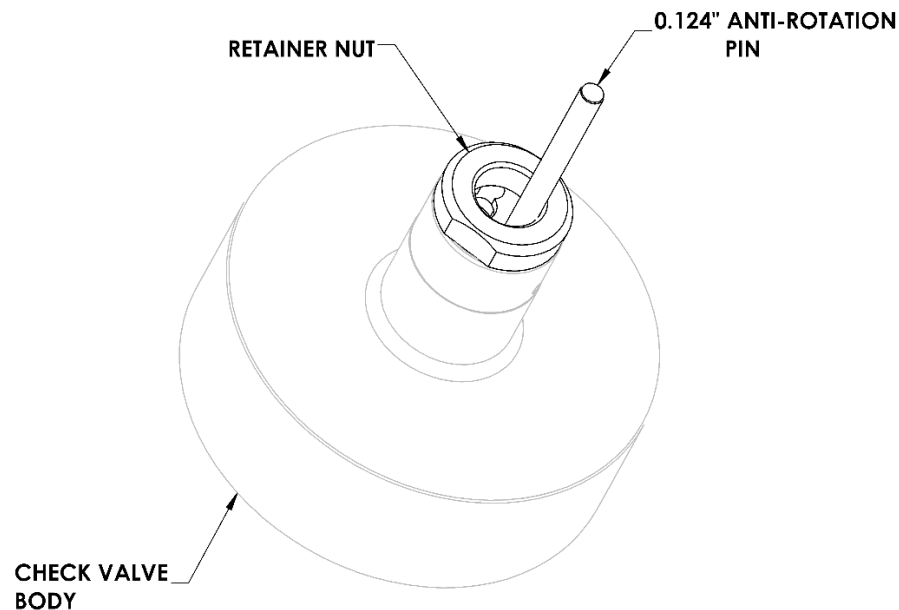

Figure 29 Installing the Inlet Retainer Nut
15. **Apply** a slight coating of Lubriplate to the 0.124" diameter anti-rotation pin and **insert** it through the outlet port of the check valve retainer and into the check valve body. **Clamp** the outside diameter of the check valve body in the soft jaws of a vise and **use** a 5/8" crowfoot (see **Figure 29 below**) to **torque** the retainer nut to 200 in-lbs (22.6 N.m).